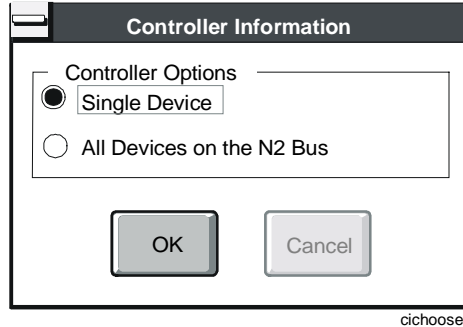

Figure 15-3: Action - Controller Information Dialog Box
1. On the Action menu, click Controller Information. The Controller Information dialog box appears (Figure 15-3).